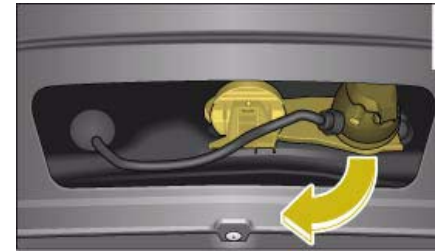

Fig. 207 Area below rear bumper: Folding down the socket
- Fold the socket unit all the way out in the direction of the arrow ⇒ fig. 207.